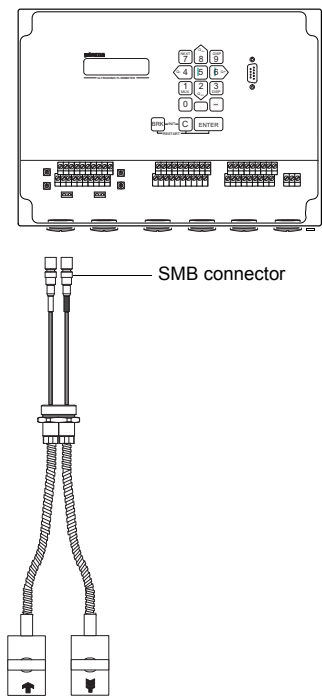

Fig. 5.3: Transducers - direct connection
- Remove the left blind plug for the connection of the transducers (see Fig. 5.3).
- Connect the SMB connectors to the sockets of the transmitter (see Fig. 5.3 and Table 5.1).